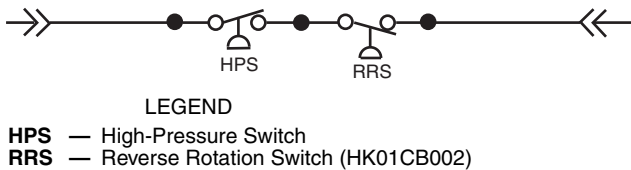

Fig. 26 — Reverse Rotation Switch Wiring
19. Reconnect conduits back into compressor junction box. Reconnect all wiring that was removed in Steps 4, 5, and 7. Temporarily install the reverse rotation low pressure switch that is supplied with the replacement compressor. Connect the switch to the second high pressure port using a standard 1/4-in. service hose. The switch will not reset until 10 psig of pressure is present on the switch. Temporarily wire the reverse rotation low pressure switch in series with the compressor's high pressure switch as shown in Fig. 26.